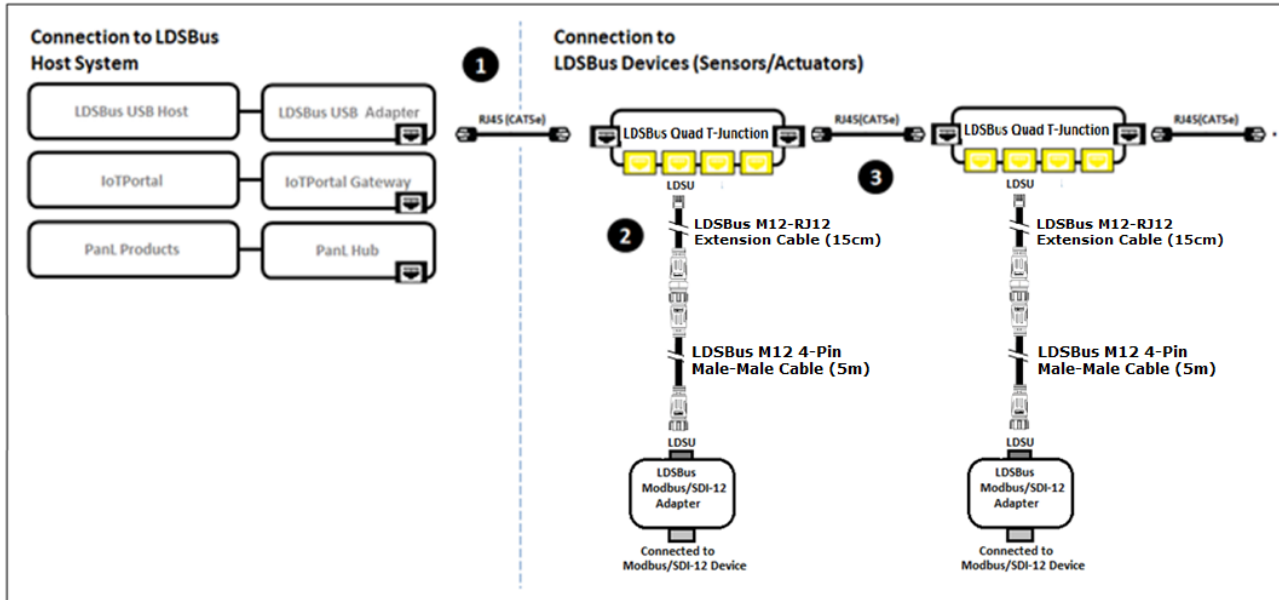

Figure 7 - LDSBus Modbus / SDI-12 Adapter with Standard LDSBus Quad T-Junction in LDSBus System
2. Connect the configured LDSBus Modbus / SDI-12 Adapter to the **Waterproof LDSBus Quad T-Junction** using the **LDSBus M12 4-Pin Male-Male Cable (5m)** as shown in Figure 7.
Figure 7 illustrates the connection of the LDSBus Modbus / SDI-12 Adapter interface with Standard LDSBus Quad T-Junction in the LDSBus system.
3. If there is more than one LDSBus Quad T-Junction, chain them together as shown in figure 7.